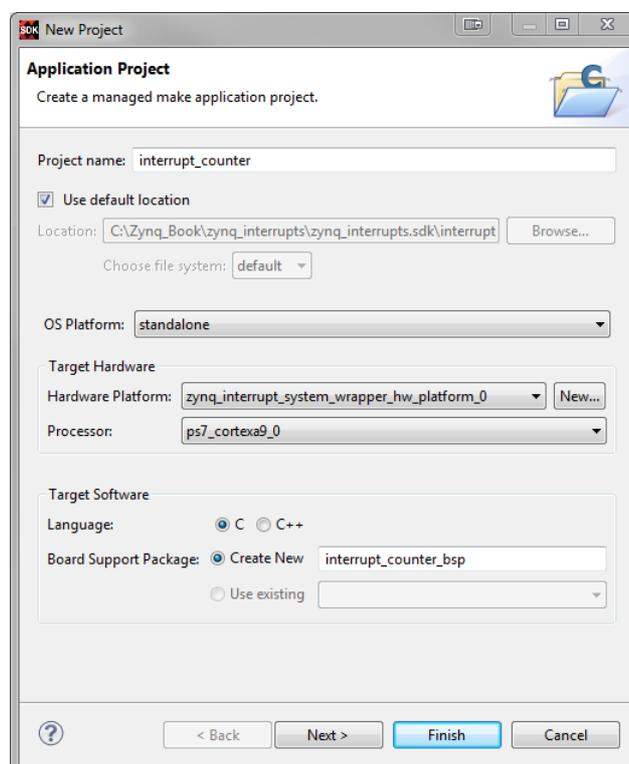

Figure 2.29: New Application Project dialogue
- The *New Project* dialogue window will open. Enter ***interrupt_counter*** in the *Project name* field, as shown in Figure 2.29, keeping all other options with the default settings. Click ***Next***.